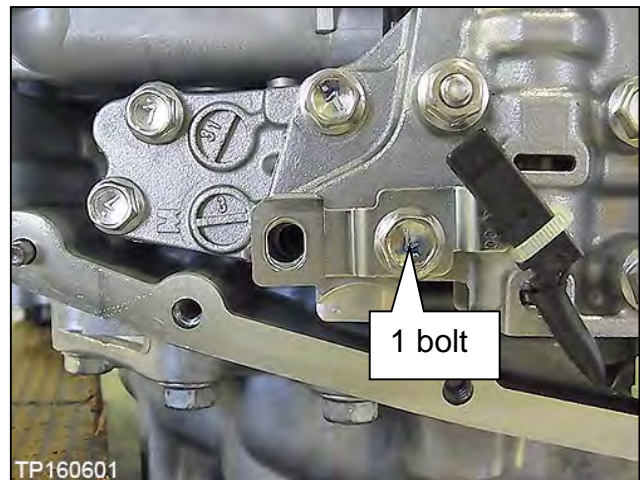

Figure 147
118. Install the CVT fluid temperature sensor bracket to the valve body with one (1) bolt (Figure 147).
**NOTE:** Leave one (1) bolt hole blank as it will be used to secure the oil strainer at a later step.